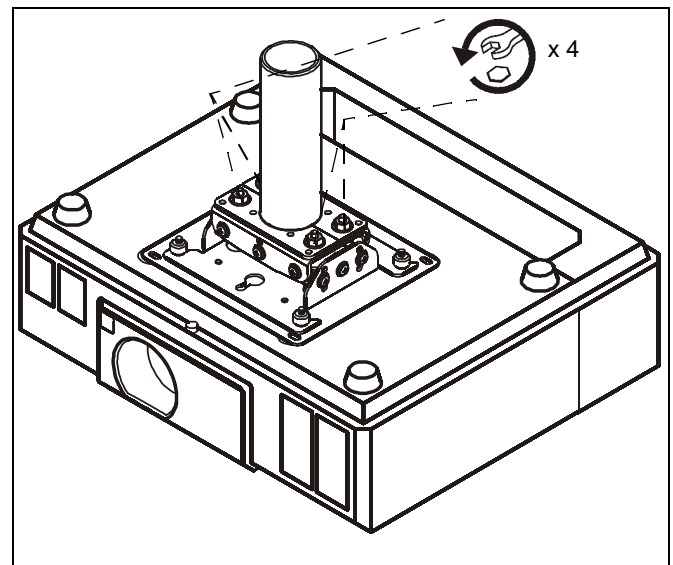

Figure 7
- Remove the four 1/4" flat washers (K) and four 1/4" hex nuts (P) from on top of the RPA/RPM mount. (See Figure 7)